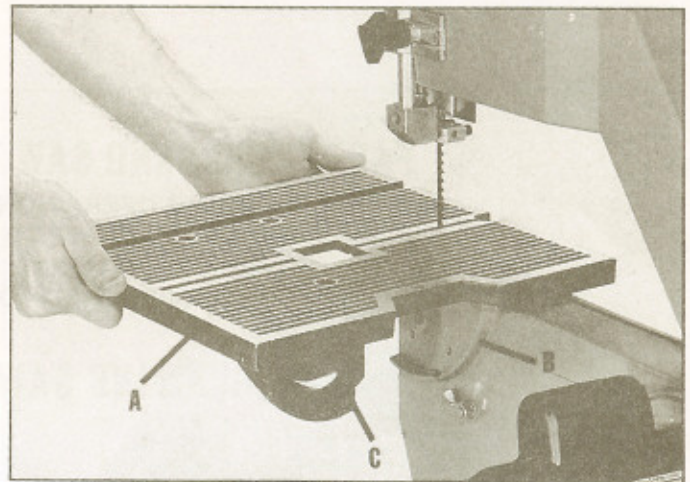

Fig. 2
2. Place table (A) onto band saw frame making sure the blade travels through the slot in the table and that the mounting rib (B) on the frame engages with the groove on the inside of the trunnion (C) Fig. 2.